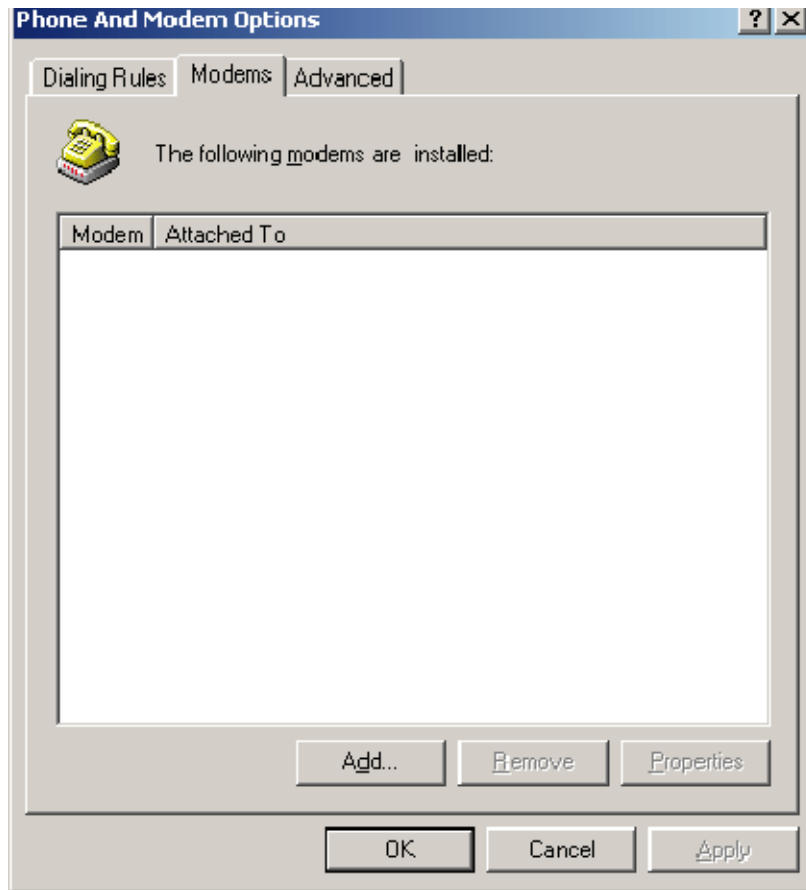

Figure 132: Phone and Modem Options window
1. Open Control Panel > Phone and Modem Options. Click the Modems tab, if not selected. See Figure 132: Phone and Modem Options window on page 204.